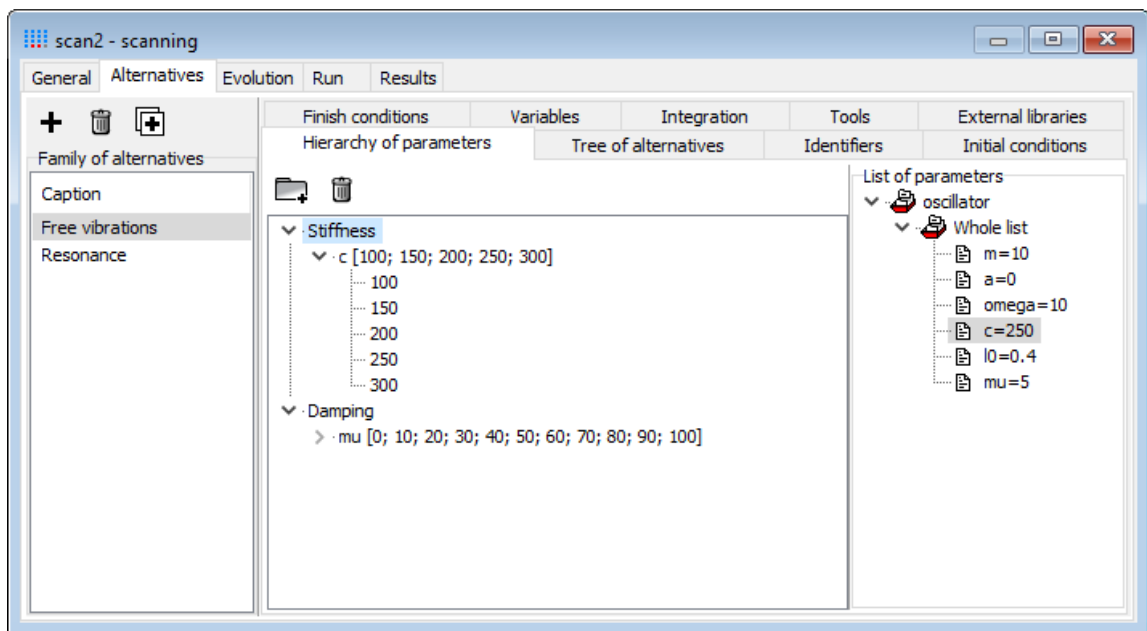
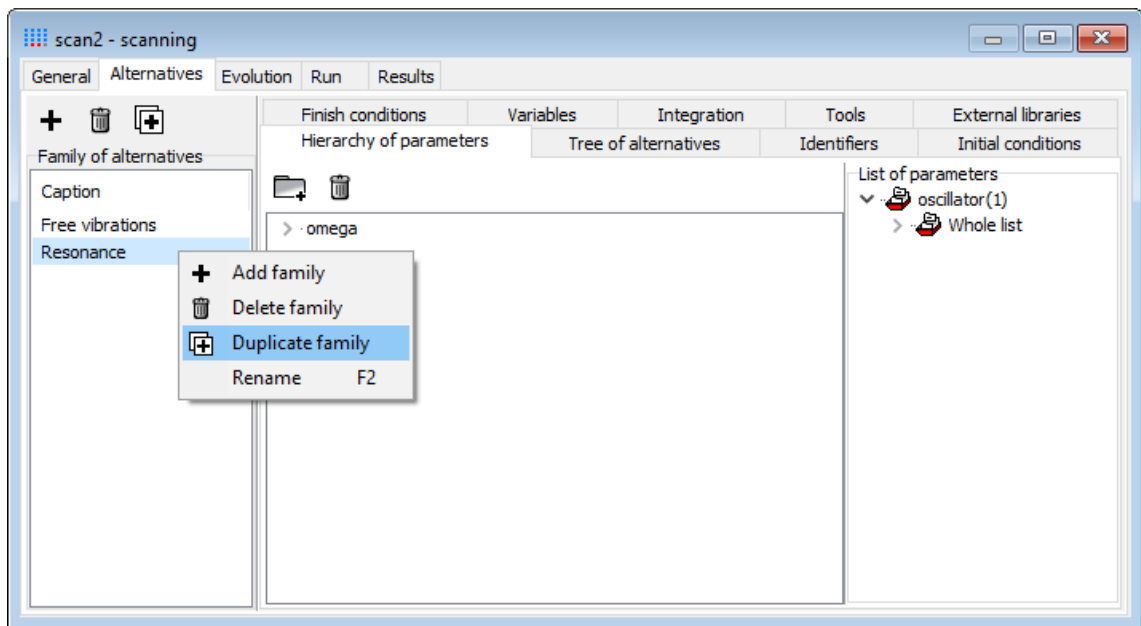
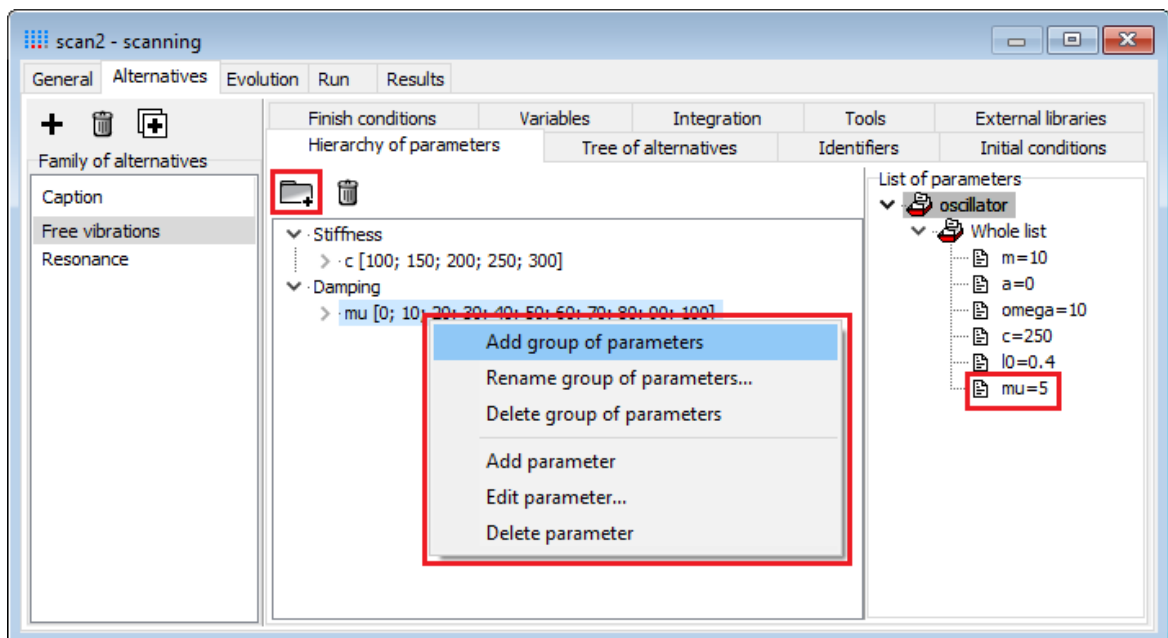

Figure 6.2. Scanning: hierarchy of parameters
Figure 6.8. Family of alternatives: context menu
Figure 6.9. Hierarchy of parameters
Let us consider basic features of the scanning how it realized in UM. The researcher can unite several models within on scanning project, see Figure 6.2. Set of numerical experiments is generated automatically. For each model the researcher describes default values of parameters, initial conditions, problem-specific parameters (road vehicles, railway vehicles, and flexible bodies), finish conditions, parameters of numerical method and list of variables that will be saved for each numerical experiment.
- The researcher adds all necessary models to the project and set all parameters for them, see Figure 6.2.
A tab for description design parameters is shown in Figure 6.2. **Family of alternatives** is a group of alternatives generated by one model. Use **Add/Delete/Duplicate family** buttons or context menu (see Figure 6.8, Figure 6.9) to set up the project. It is necessary to describe hierarchy of parameters for each family. Hierarchy of parameters can be compare to nested loops. It means that for each value of upper level all values of lower level will be tabulated. Within a level, the parameters are changed jointly; number of iterations is determined by number of values of the first parameter at the level. If the number of iterations in the first parameter is less than ones of other parameters then final extra values are ignored, else the values of other parameters are taken over again.
You can use tool bar or context menu to add/remove levels of hierarchy or model parameters, see Figure 6.9. Double click onto any parameter from the **List of parameters** adds that parameter to current level of hierarchy. For example, the hierarchy in Figure 6.9. consists of two levels: **Stiffness** and **Damping**. **Stiffness** level consists of one parameter **c** having values [100, 150, 200, 250, 300]. **Damping** level consists of one parameter **mu** with values [0, 10, 20, 30..100].